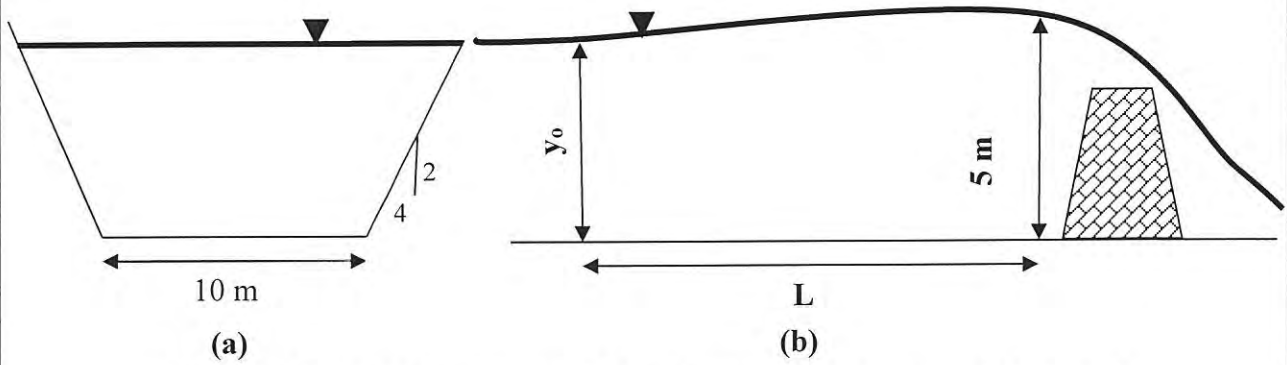

FIGURE Q6(c). Dimensions and GVF flow profile in trapezoidal channel
- Q6** (a) Define gradually varied flow (GVF) and state **TWO (2)** conditions of GVF occurrence. (4 marks)
- (c) **FIGURE Q6(c)** shows a trapezoidal channel having a bottom slope of 0.0573° and bottom width of 10 m carrying a flow of $30 \text{ m}^3/\text{s}$. A control structure is built at the downstream end which raises the water depth at the downstream end to 5.0 m. Compute the water surface profile and length of channel using Direct Step method if Manning, n for the flow surface is 0.013, $N = 6$ and $u = 1$. (8 marks)